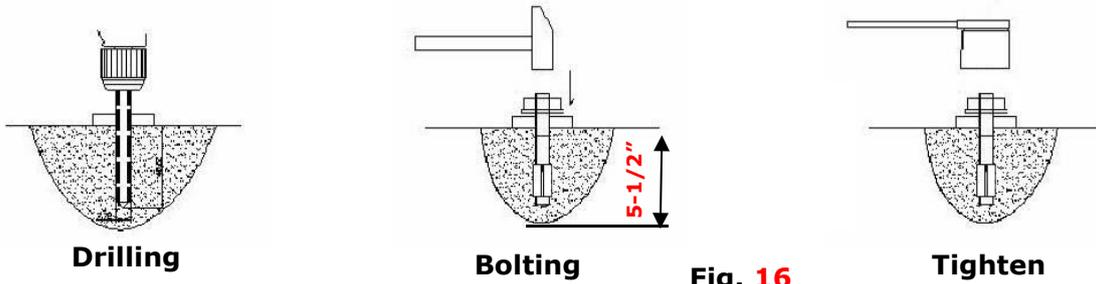

Fig. 16
2. Using the prescribed rotary hammer drill, drill all the anchor holes and install the anchor bolts. Then tighten the anchor bolts (**See Fig. 16**).